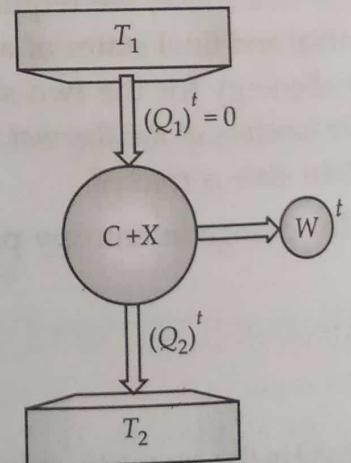

Fig. 1.22 Illustration for Carnot's theorem.
**Proof.** Operate a Carnot's engine C and an arbitrary engine X (not necessarily reversible) between two reservoirs at temperature  $T_1$  and  $T_2$  with ( $T_1 > T_2$ ). By first law of thermodynamics, the workdone by the engines (see Fig. 1.22).
This is shown in Fig. 1.22.